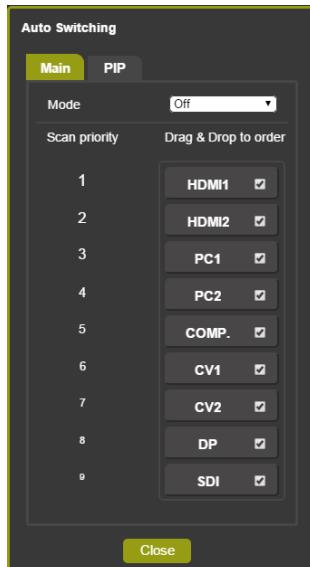

Figure 49: The Routing & Scaling Page – Auto Switching Window (Main Tab)
Click the Auto Switching button to open the Auto Switching window (see Figure 49).
When Scan mode is activated, the system scans the inputs from the highest to the lowest priority in search of a valid input signal for each the Main and PIP windows. The priority is ordered from the lowest input number (9) to the highest (1). For example, if PC 1 and HDMI 2 have a valid signal and auto switching is enabled, the **VP-771** will scan through the inputs and select the HDMI 2 which is higher in the priority list (see Figure 49). Once the signal is no longer valid on HDMI 2, the **VP-771** will scan for the next highest-priority valid signal.